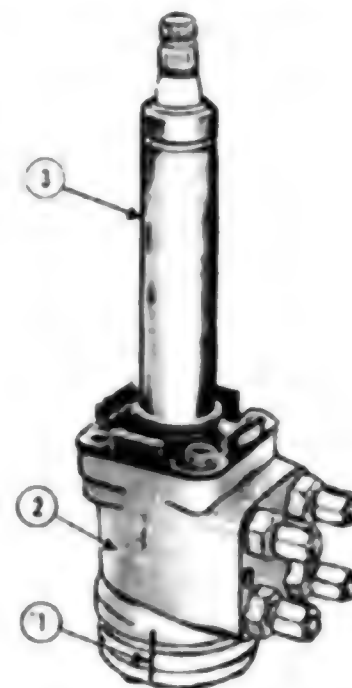
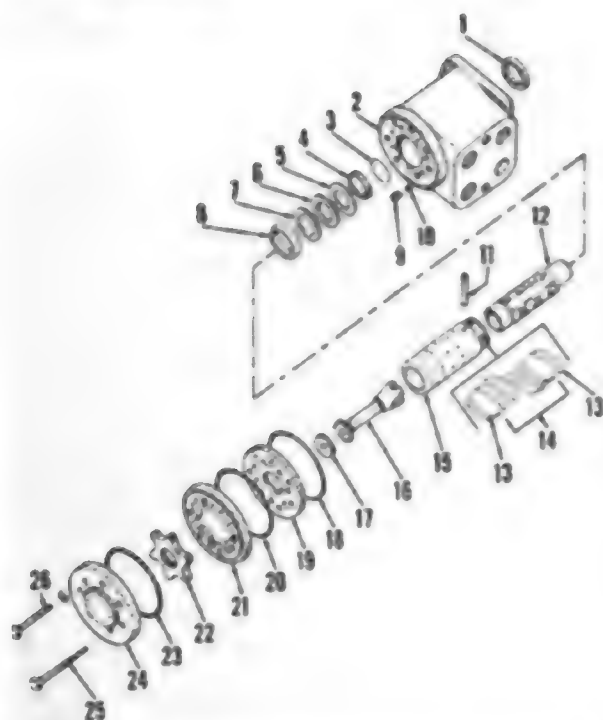

Fig. 30 - View of steering valve (hand pump) used on all models.
Fig. 31—Exploded view of steering valve assembly.
**22. OVERHAUL.** Clean exterior of unit and scribe match marks on end plate, rotor plate, distributor plate and valve housing as shown in Fig. 30. Unbolt and remove steering column and shaft (3) from steering valve. Clamp valve housing in a soft jaw vise in inverted position and remove end plate cap screws (25 and 26 - Fig. 31).